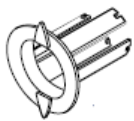
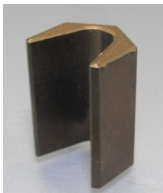

Figure 1: Position Indicator
Figure 2: 3/8-inch Shaft Adapter
1. Actuator (10), 3/8-inch Shaft Adapter (Figure 2) and Position Indicator (Figure 1) required for installation.
3. Insert the 3/8-inch Shaft Adapter (Figure 2) into the back of the Actuator, aligning Shaft Adapter with Adjustment Lever (8) and raised-tabs part of the Shaft Adapter. Raised tabs act as tops. (Figure 4 and Figure 5)
4. Slide red manual override release toward bottom of actuator(10) and match full counter-clockwise position of Adjustment Lever (8) to the full counter-clockwise rotation of the Ball Valve (1). Reposition if necessary.
5. Pull Hub Stem (3) upwards, away from Ball Valve until no additional space is between the Hub Assembly's Stem and Seal Mechanism.